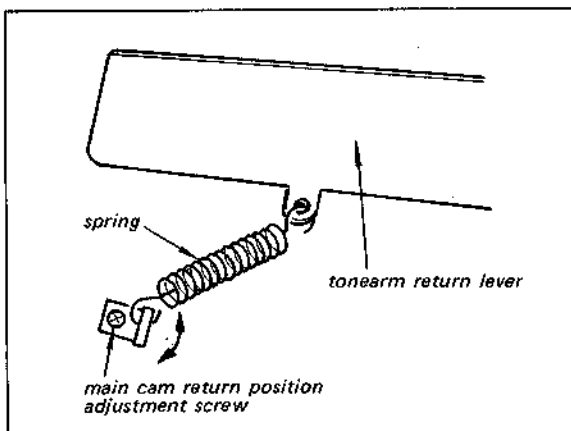

Fig. 3-15. Main cam return position adjustment (2)
3. If not, change tension of spring by loosening the main cam return position adjustment screw as shown in Fig. 3-15.